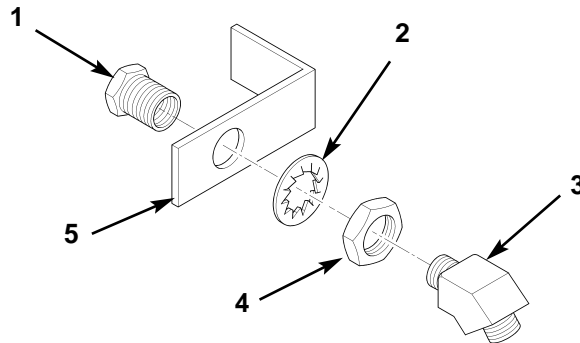

Figure 10. Assembling Right-Rear Air Block.
1. Install bulkhead fitting (figure 10, item 1) on right-rear bulkhead fitting mount (figure 10, item 5) with new lockwasher (figure 10, item 2) and nut (figure 10, item 4).
2. Install elbow (figure 10, item 3) on bulkhead fitting (figure 10, item 1).